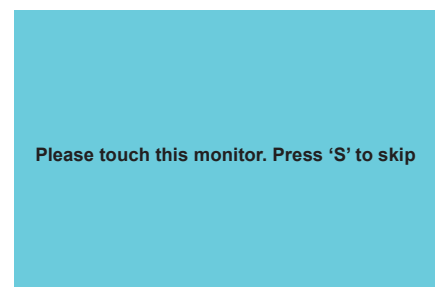

Fig.20
Step 3: Touch each screen when it displays the message "Please touch this monitor. Press 'S' to skip. Follow this sequence and touch each screen to map the touch screens. (Fig.20)